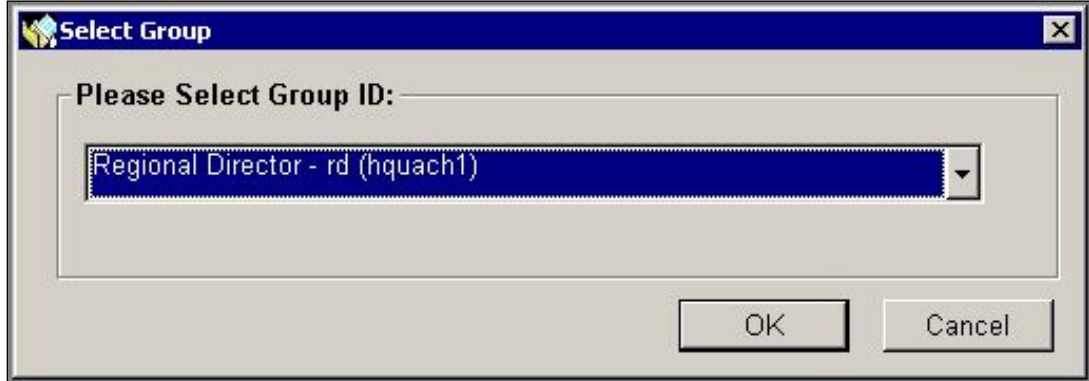

Figure 1-8: Select Group Dialog Box
- The Select Group dialog box is displayed (Figure 1-8).